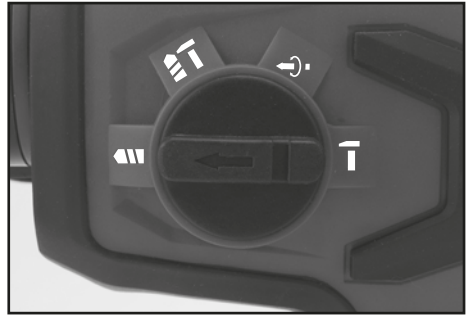

FIG.3
9.1 FUNCTION SELECTORS – FIGS. 3 – 6
Rotary Drill (Fig.3).